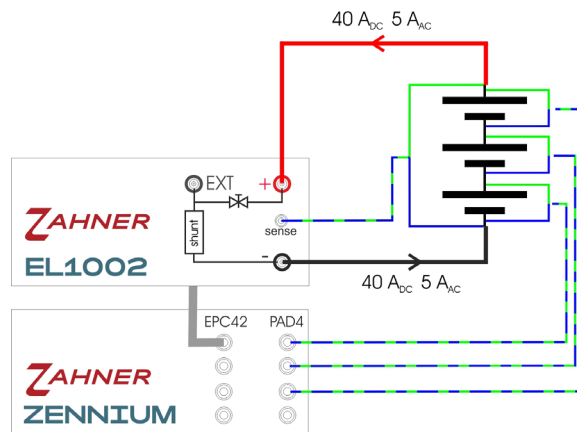

Fig. 15: EL1002 with PAD4
A PAD4 card provides 4 additional channels for parallel impedance measurements on a stack. These channels allow for a simultaneous investigation of several different parts of the DUT. With a ZENNIUM X, up to 4 PAD4 cards can be installed which allows for up to 17 parallel impedance measurements on a stack. A possible application of such a setup is the simultaneous investigation of 17 cells in a battery or a fuel cell stack as shown in Fig. 15. The sensor cables (green and blue) of the PAD4 card must be twisted around each other in analogy to the main channel to minimize artifacts.
**Power dissipation (Fig. 15):**